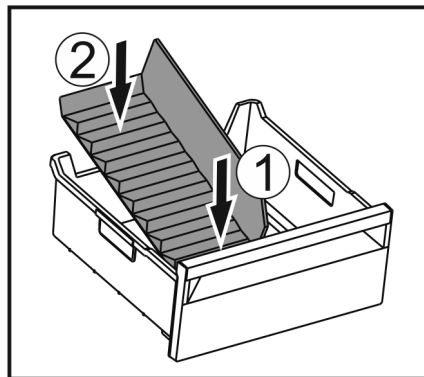

Fig. 158
- ▶ Insert the front part of the ice compartment divider. Fig. 158 (1)
- ▶ Lower the rear part of the ice compartment divider to the drawer bottom. Fig. 158 (2)